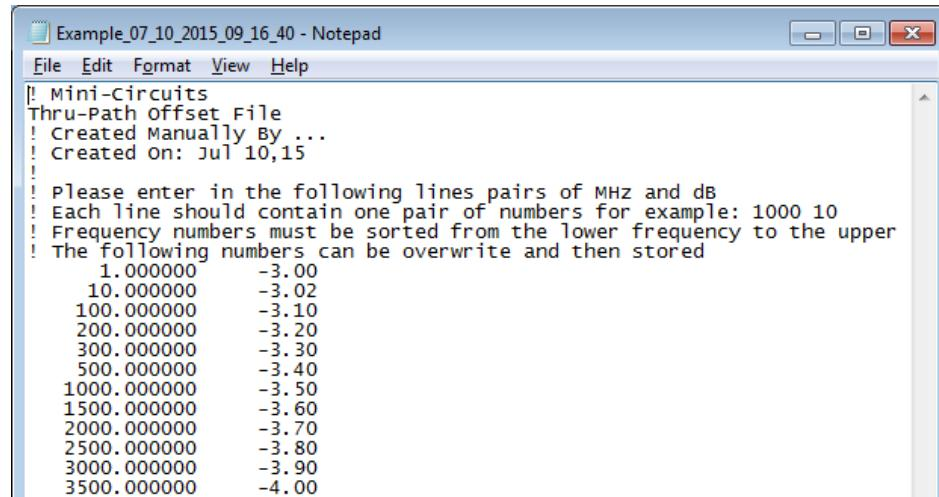

Figure 3.6.3: Offset file browse window
3.6.3 To create an offset file manually click on the edit icon over the file name window and a sample offset file will be created(**Fig. 3.6.3**). Replace the values in the sample file with the values you need and save the file. There is no requirement for any specific file name or suffix, however as the file is a simple text file saving it with a txt suffix to simplify future editing is recommended.
Note: When reading frequencies between two sets of values the PWR sensor software will use linear interpolation to calculate the required offset. When reading a frequency outside the range covered by the offset file the closest value will be used. Thus when using the example shown in **Figure 3.6.3** the offset value for 5750 MHz will be -4.45 dB and for all frequencies 6000 MHz or greater will be -4.5 dB.
Clicking on the 'View Graph' button in the data record window (Fig 3.6) will open a graphical presentation of the recorded data (Fig 3.6.3). Default presentation is of power only, using the same units as the data was recorded in, but user can select to present both power and temperature by checking 'Show temperature graph' or change the power units by clicking on the arrow next to the graph title.